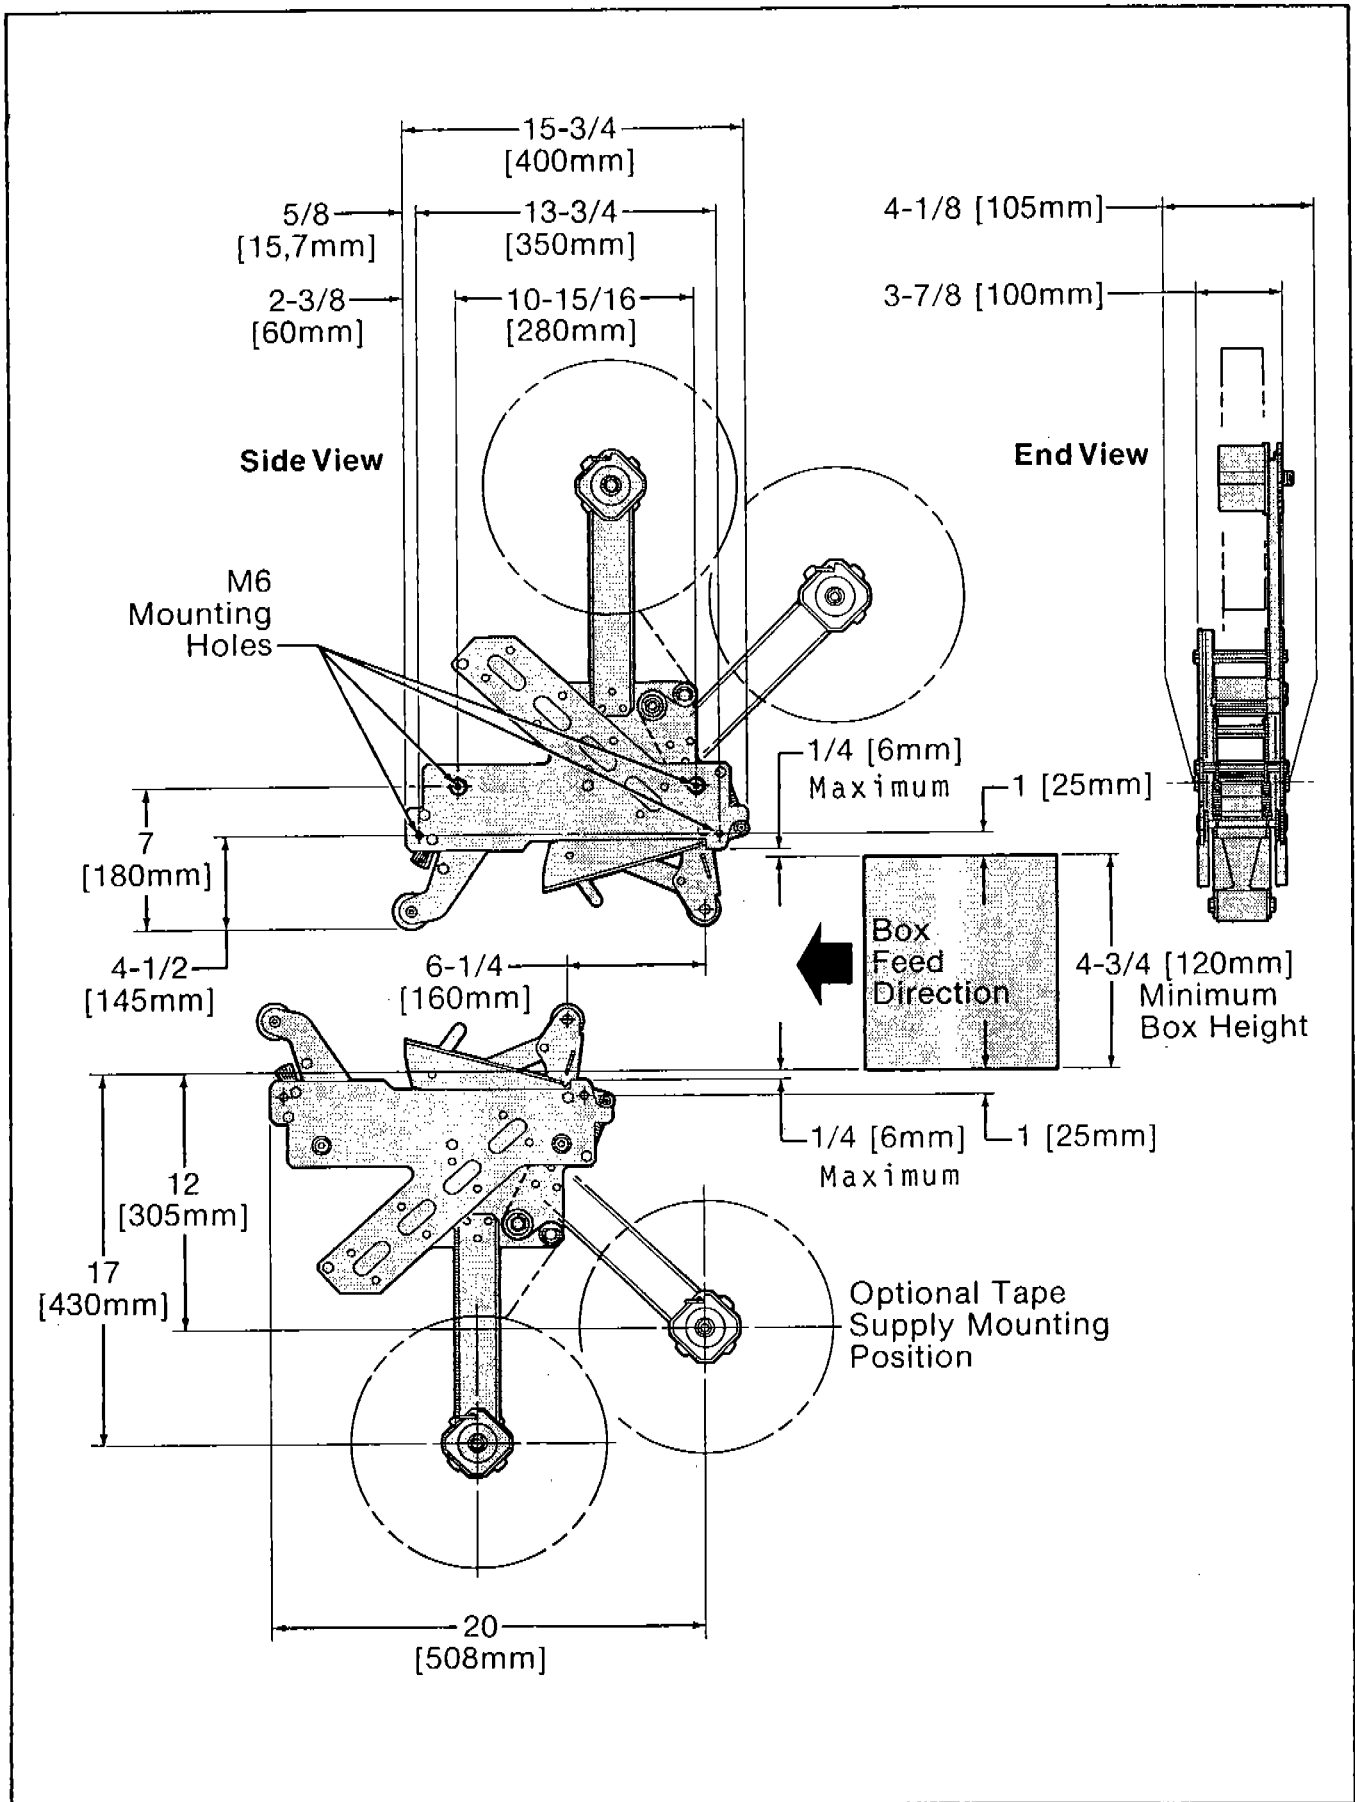

Figure 11 - Taping Head Assemblies - Typical Mounting
The taping head assembly can be used in converting existing or in custom made machinery. It can be mounted for top taping or bottom taping. Refer to box size specifications on page 3 and figure 11 on page 10, for the following points in making such installations:
3. Figure 11 illustrates the typical mounting relationship for opposing taping head assemblies to allow taping of box heights down to 4 3/4 inches or 120 mm. To tape box heights down to 2 3/4 inches [70 mm], the taping head assemblies must be completely staggered so only one tape seal is being applied at one time.
4. Four (4) mounting screws or spacers are provided with the taping head, but special installations may require alternate means for mounting.
6. The upper and lower taping heads provide two mounting positions for the tape drum bracket, as shown in figure 11.